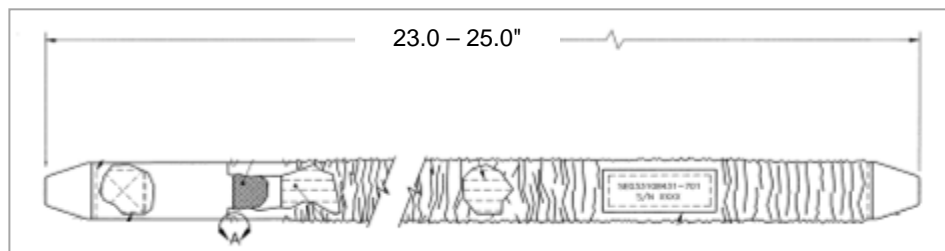

Figure 5a.- Waist Tether.
2. Mark the desired length on a stable surface. Reference figures 5a and 5b for required lengths